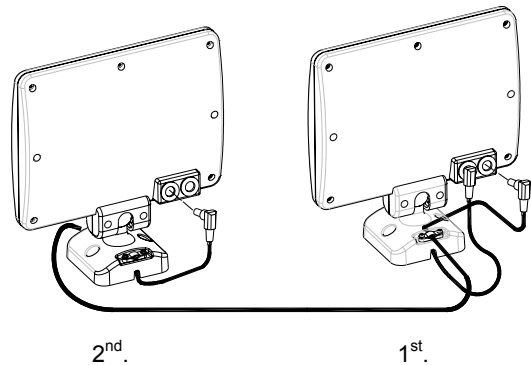

FIGURE 6
5. Plug the other end of the jack to the 'solar power in' of the rear side of the first solar panel. Fix its solar connecting wire to the strain relief of the base of solar panel, using the screws provided. (FIGURE 6)